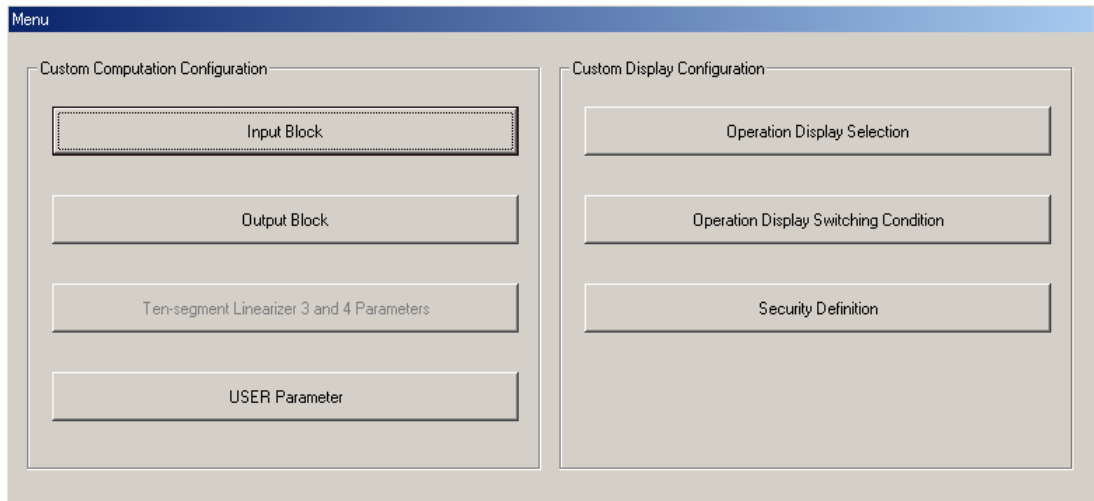

Figure 5.1.11 [Custom Computation Configuration Menu] Dialog Box
In the [Select Model and Suffix Codes] dialog box, click the <OK> button. The [Custom Computation Configuration Menu] dialog box (Figure 5.1.11) appears.
Click the <OK> button. The [Custom Computation Configuration Menu] dialog box (Figure 5.1.11) appears.
- (2) From the <Serial Port> drop-down list box, choose either COM1 to COM16.
- (3) Click the <OK> button. Data are uploaded from the controller.
- (4) When uploading is complete, the [Custom Computation Configuration Menu] dialog box (Figure 5.1.11) appears.
- (5) For the subsequent operations, see Section 5.2 and the sections/subsections that follow.
- (3) Click the <OK> button. The LL200 tool begins uploading data from the controller.